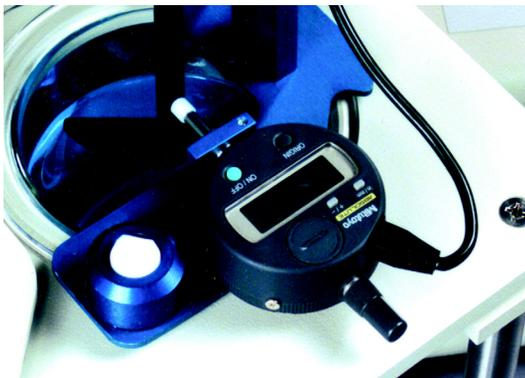

Figure 16 Wobble Gauge with Paddle
- 4 Ensure the wobble gauge is properly positioned with the tip of the wobble gauge pointer positioned against the paddle shaft. See Figure 16, “Wobble Gauge with Paddle,” below.